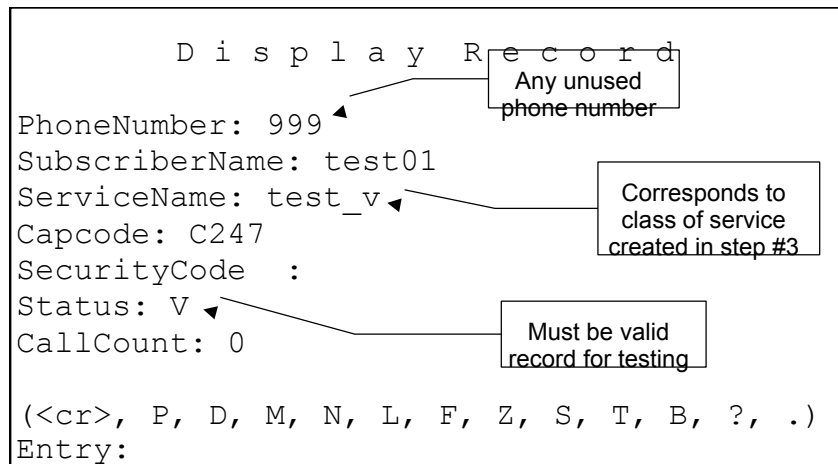

Figure 50. Model 640 Database 2-Tone Subscribers Record
- Fill in the record as shown in Figure 50.